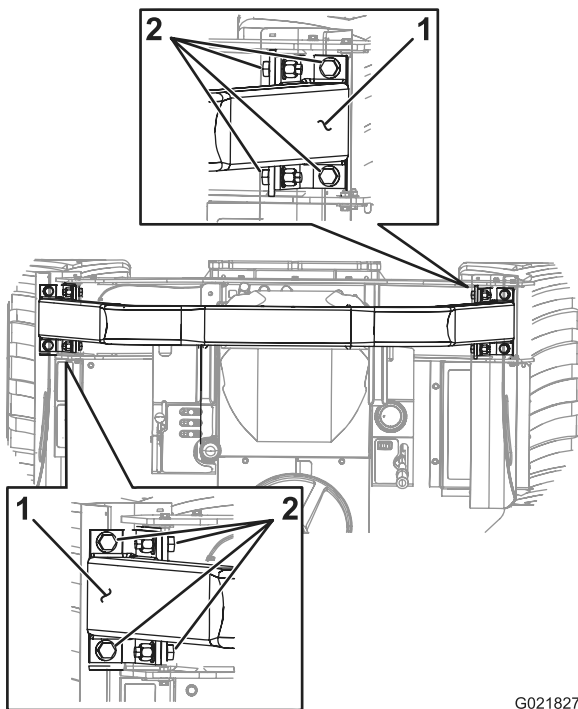

Figure 94
1. Check that the 8 bolts that secure the ROPS bar to the chassis of the machine are torqued to 24.4 to 26.1 N-m (216 to 231 in-lb); refer to Figure 94.